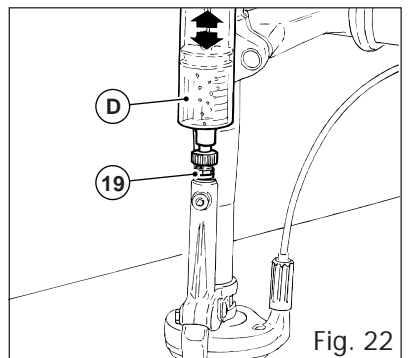
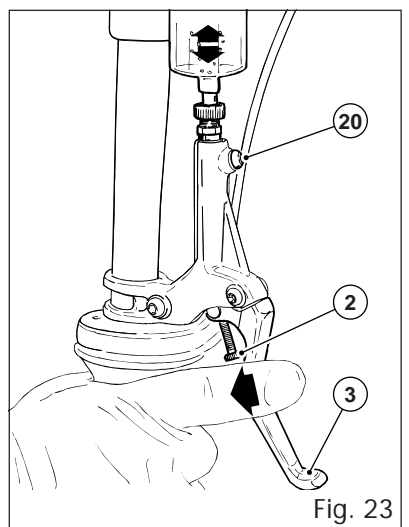

Fig. 22
Fig. 23
- fill the syringe (D) to the top with the recommended fluid;
- insert the spout of the syringe in the hole on the one way valve (19, fig. 22) of the pump and screw the lock ring on the valve threads;
- loosen the bleeder screw (20, fig. 23) without removing it and unscrew the padwear adjustment screw (2) all the way;
- insert oil by pressing on the syringe plunger until it begins to come out of the hole of the bleeder screw (20). Now tighten the bleeder screw;
- press the lever (3) and check that any residual air bubbles rise in the column of fluid in the syringe (fig. 22);
- tighten the padwear adjustment screw (2) until it touches the pump piston. If the operation has been performed correctly there should not be any play in the control lever. If this is not the case, repeat the procedure with greater care.
- take the syringe off the tube and verify if the unidirectional valve (19) is filled to the brim with fluid. If not top off with an extra bit of fluid (fig. 22 & 23);